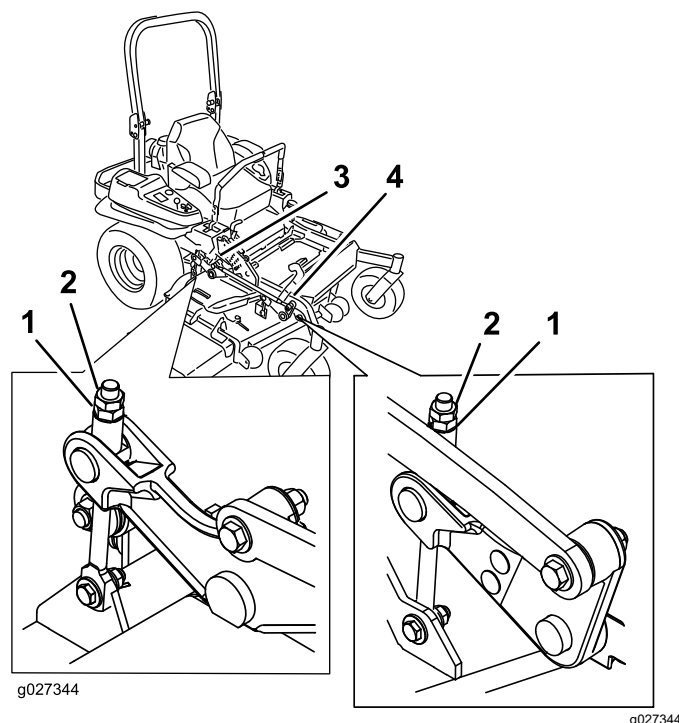

Figure 102
10. Fine-tune the adjustment nut on the front deck-lift assembly by turning it (Figure 102).
16. Fine tune the screw adjuster by turning it to get 8.3 mm (3-1/4 inches) height (Figure 102).